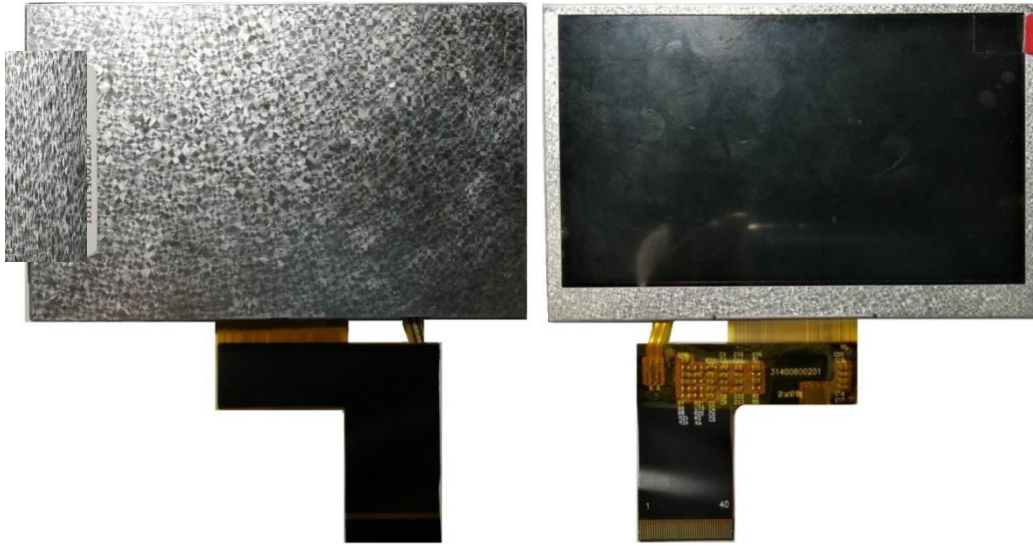

Figure 11: TFT Panel FPC Coating
- Coat the TFT FPC. (Figure 11).